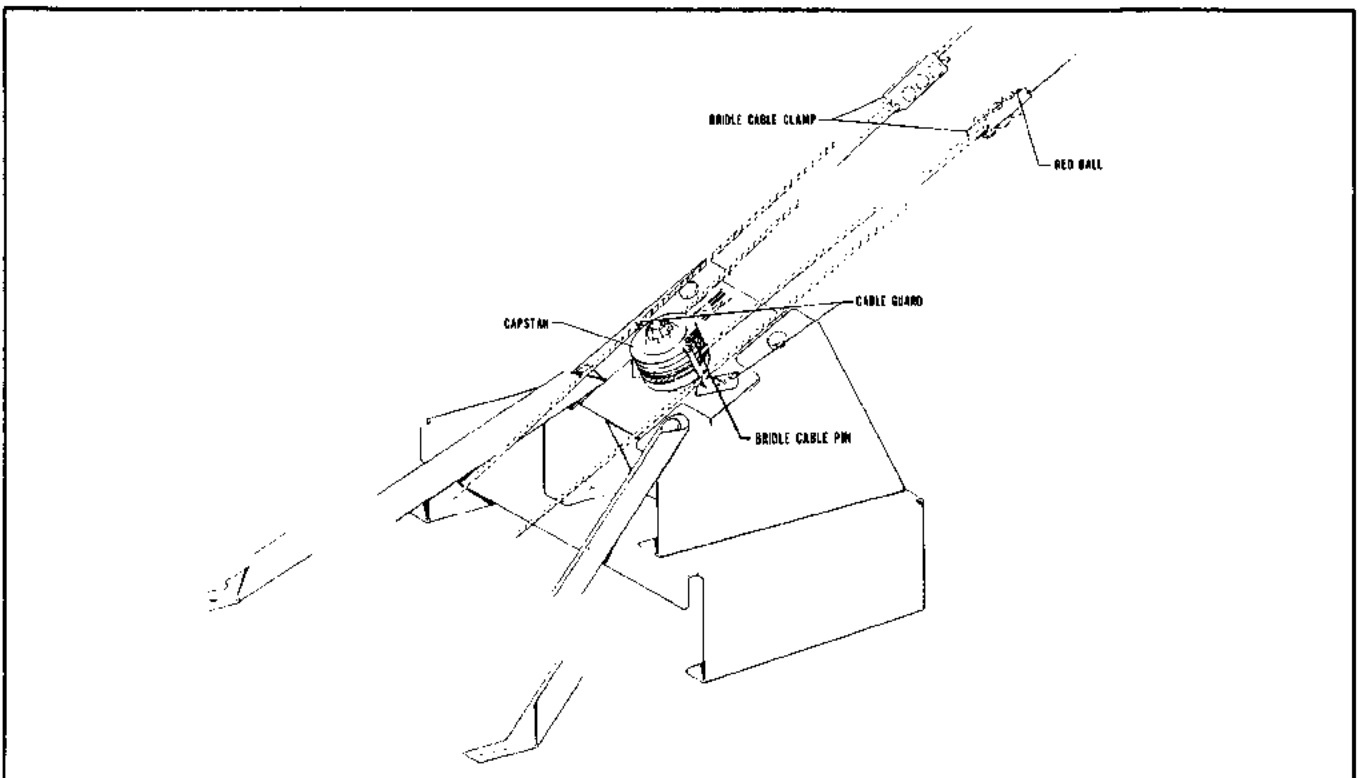

Figure 3-24. Rudder Servo Installation, PA-31-310, PA-31-325, PA-31-350 and PA-31P
### 3-50. INSTALLATION OF RUDDER SERVO. (PA-31-310, PA-31-325, PA-31-350 and PA-31P) (Refer to Figure 3-24.)
- e. REFER TO FIGURE 3-9 AND CHECK THAT THE CONTROL CABLE TENSION (Z) IS ADJUSTED TO  $25 \pm 2$  POUNDS PRIOR TO ATTACHING THE BRIDLE CABLE CLAMPS. Ascertain the area on the cable where the clamp attaches is clean, dry and free of all lubricants and anti-corrosive additives. Attach the bridle cable to the rudder control cables. The bridle cable is drawn to the rudder control cables and attached with clamps at the previously painted locations on the control cables. The end of the bridle cable with the red ball attaches to the RIGHT control cable. (Should the rudder cables not be painted, position the rudder in neutral and the bridle cable pin installed in the capstan as shown in Figure 3-24.) Adjust the bridle cable clamps, so that the bridle cable tension (Y) as shown in Figure 3-9 is  $15 \pm 2$  -